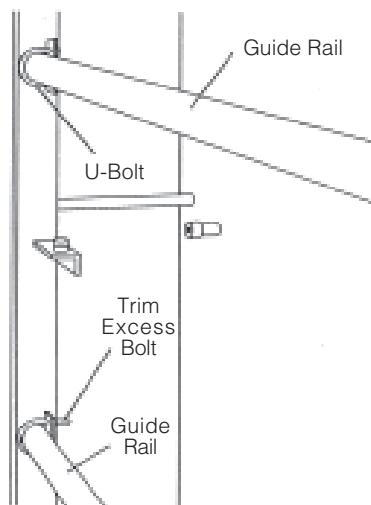

Figure 3-27. Install Guide Rails
10. Install two guide rails along each side of chamber. Insert guide rail (one-inch pipe) into U-bolts (see Figure 3-27). Tighten U-bolts and trim excess bolt, leaving 1/2 inch from nut.